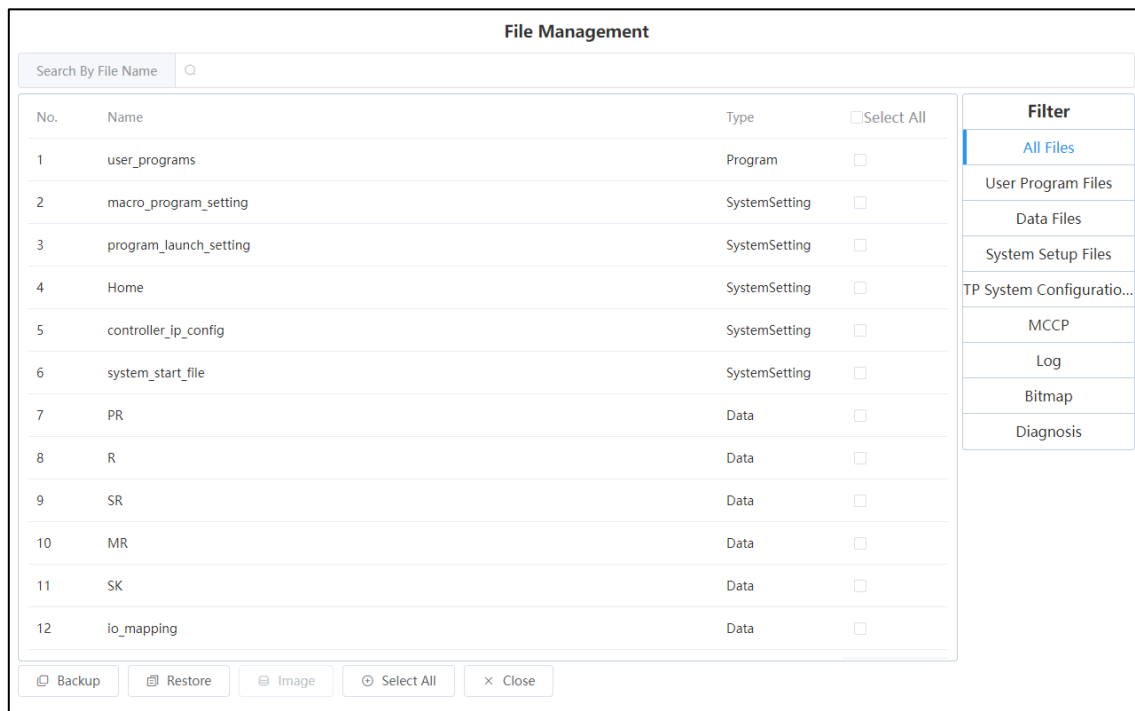

Fig. 7.1 File Management Interface
1. Switch the robot to the SERVO\_OFF state. Click "Menu Button" → "Management" → "File Management" → "Backup" and open the file management interface, as shown in Fig. 7.1.